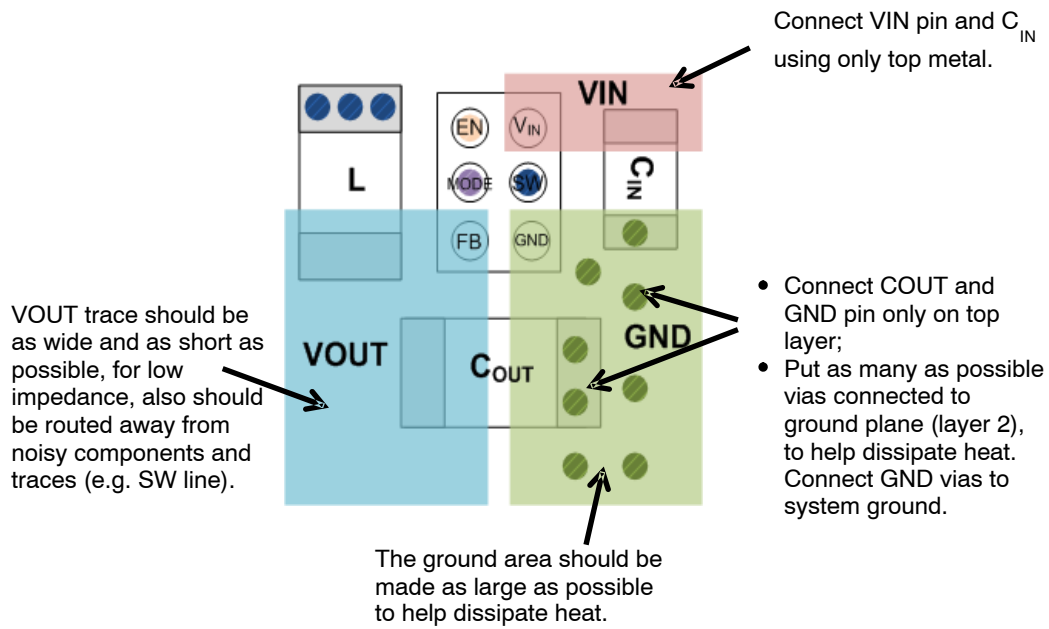

Figure 26. Top Layer
1. The input capacitor (C_{IN}) should be connected as close as possible to the VIN and GND pins. Connect to VIN and GND using only top metal. Do not route through vias (see Figure 26.)
2. Place the inductor (L) as close as possible to the IC. Use short wide traces for the main current paths.